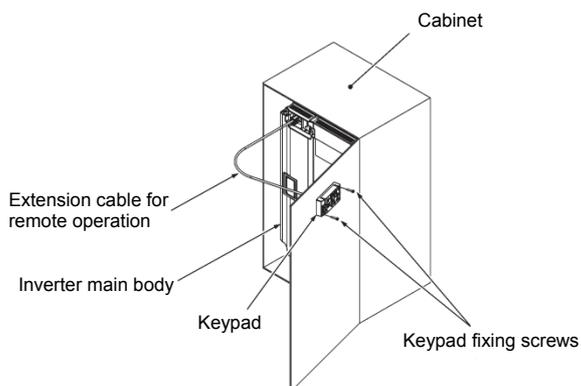

Figure 2.3-2 Attaching the Keypad on the Cabinet
- Attach to the cabinet (refer to Figure 2.3-2)